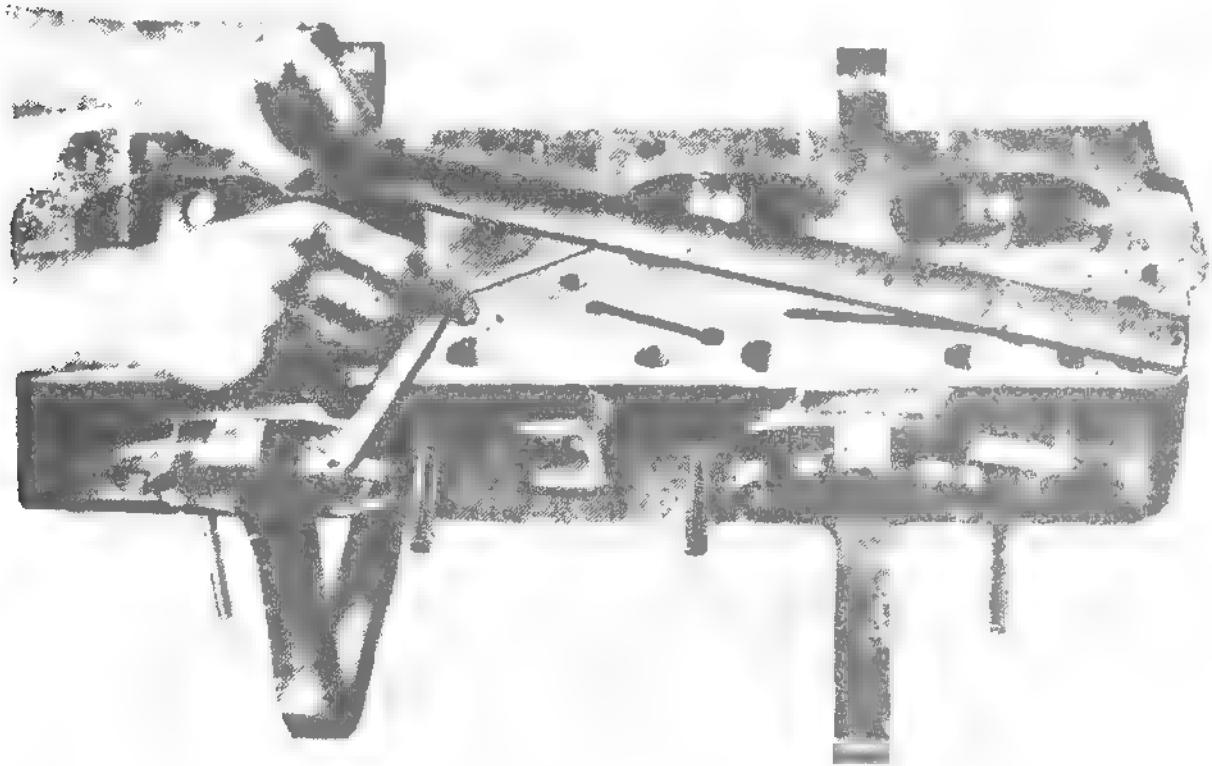

Fig. 4.54. CHECKING FLATNESS OF CYLINDER HEAD
- Check flatness of cylinder head mounting surface (see Fig. 4.54).